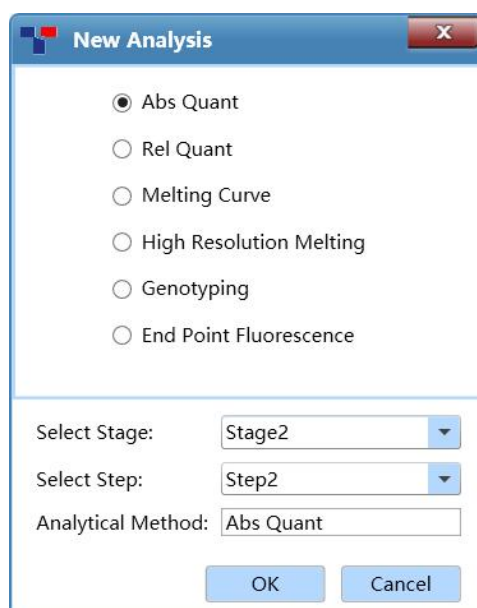

Figure D-8. New Analysis Window
- ▶ User can click <  **New Analysis** > icon in Tool Bar and the application software will automatically pop up the new analysis window, as shown in figure D-8.